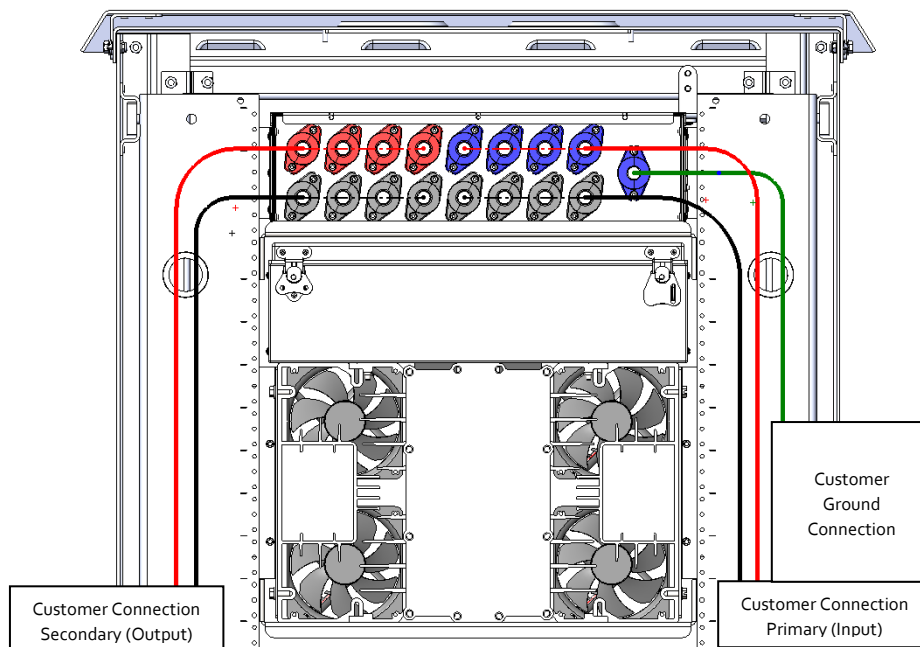

FIGURE 30: REAR VIEW OF CUSTOMER CONNECTIONS TO JUNCTION BOX
- Connect Customer Primary (Input) cables (Figure 30)
- Connect Customer Secondary (Output) cables (Figure 30)
- Connect Customer Ground Cable (Figure 30)